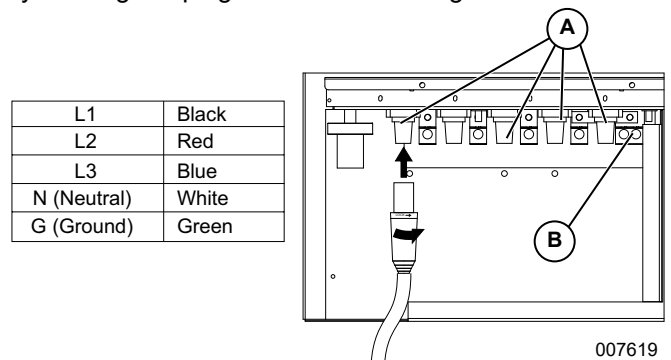

Figure 3-5. Cam Lock Connections
See Figure 3-5. The unit is equipped with connection lugs (A) and ground connection. The lugs provide connection points to attach external loads to the generator. A decal on the inside of the connection lug door details proper connections for selected voltages.
See Figure 3-5. The unit may be equipped with cam lock connections (A) and ground connection (B) located behind the lug door. These receptacles provide connection points to attach external loads to the generator. A decal below the cam lock connections details the proper connections for selected voltages.
See Figure 3-5. Voltage selector switch (A) mechanically changes the connections between the generator output leads and the connection lugs or optional cam lock connectors. Voltage ranges are selected by rotating the switch handle to the desired voltage.